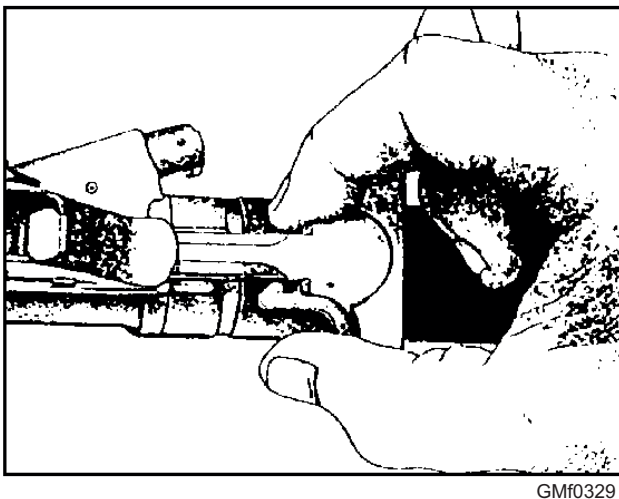
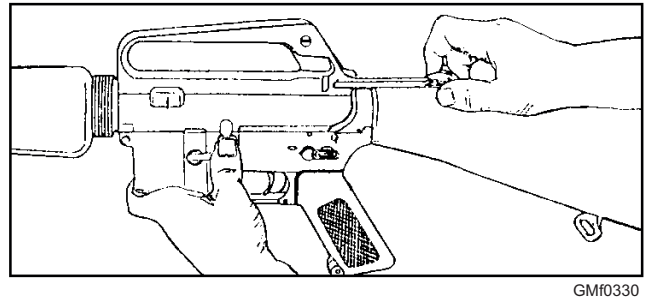

Figure 3-29.—Pulling the charging handle rearward.
Figure 3-30.—Locking the bolt open.
3. Lock the bolt open as shown in figures 3-29 and 3-30. Grasp the charging handle with the thumb and forefinger of the right hand, depress the charging handle latch with the right thumb, and pull to the rear (fig. 3-29). When the bolt is at the rear, press the bottom of the bolt catch with the thumb or forefinger of the left hand (fig. 3-30). Allow the bolt to move slowly forward until it engages the bolt catch, and then return the charging handle to its forward position.